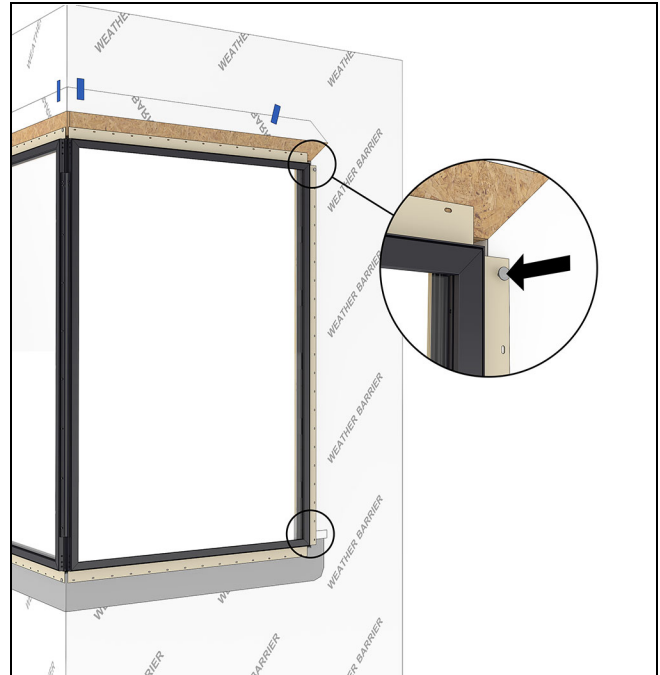

Figure 45
9. Temporarily fasten the unit into the RO by tacking the nailing fin near the top corner with a 2" roofing nail. See Figure 45.